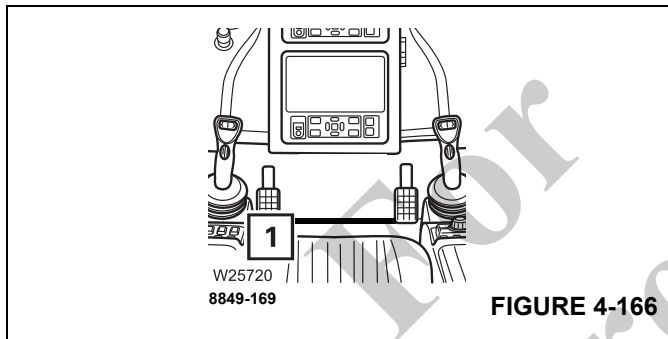

FIGURE 4-166
- Depress the brake pedal (1), (Figure 4-166). Do not brake to such a degree that the load starts swinging.